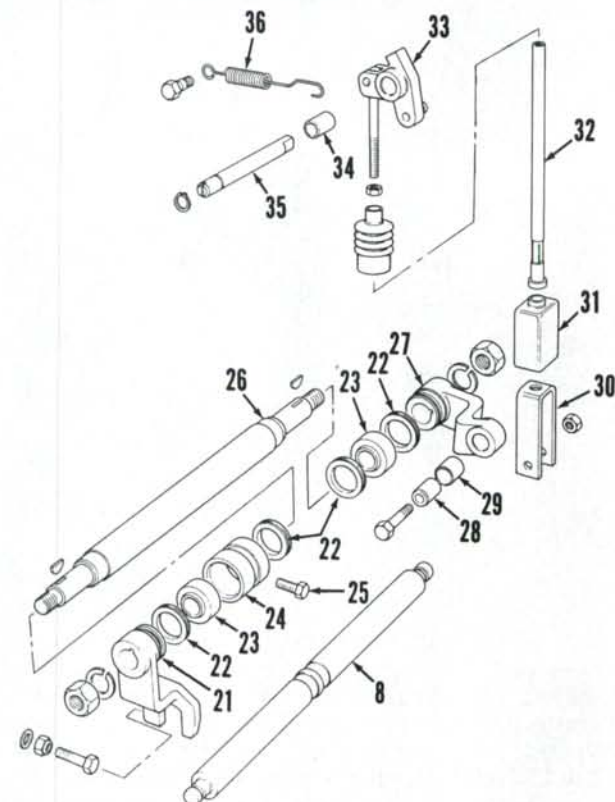

Fig. 278—Exploded view of draft sensing transfer linkage used on Model 1594.
To disassemble transfer shaft (26—Fig. 278), disconnect transfer rod fork (30) from lever (27). Remove retaining nut from right-hand end of shaft, then remove lever (27) and key. Remove bearing retaining screw (25) from center support under pto housing. Using a hammer and punch, tap against right-hand end of shaft to remove shaft, left-hand bearing assembly and fork (21) as a unit. Remove bearings (23) and seals (22).
Install front end of sensing spring assembly into place first and tighten retaining bolts to 102-122 N·m (75-90 ft.-lbs.) torque. Lift rear end of springs into position making sure actuator shaft (8) engages fork (21—Fig. 278) of transfer shaft. Install pivot bushings (16—Fig. 277) and retaining bolts (17). Tighten nuts to 244-298 N·m (180-220 ft.-lbs.) torque. Install lower links (11) and caps (10). Install thrust blocks (19),